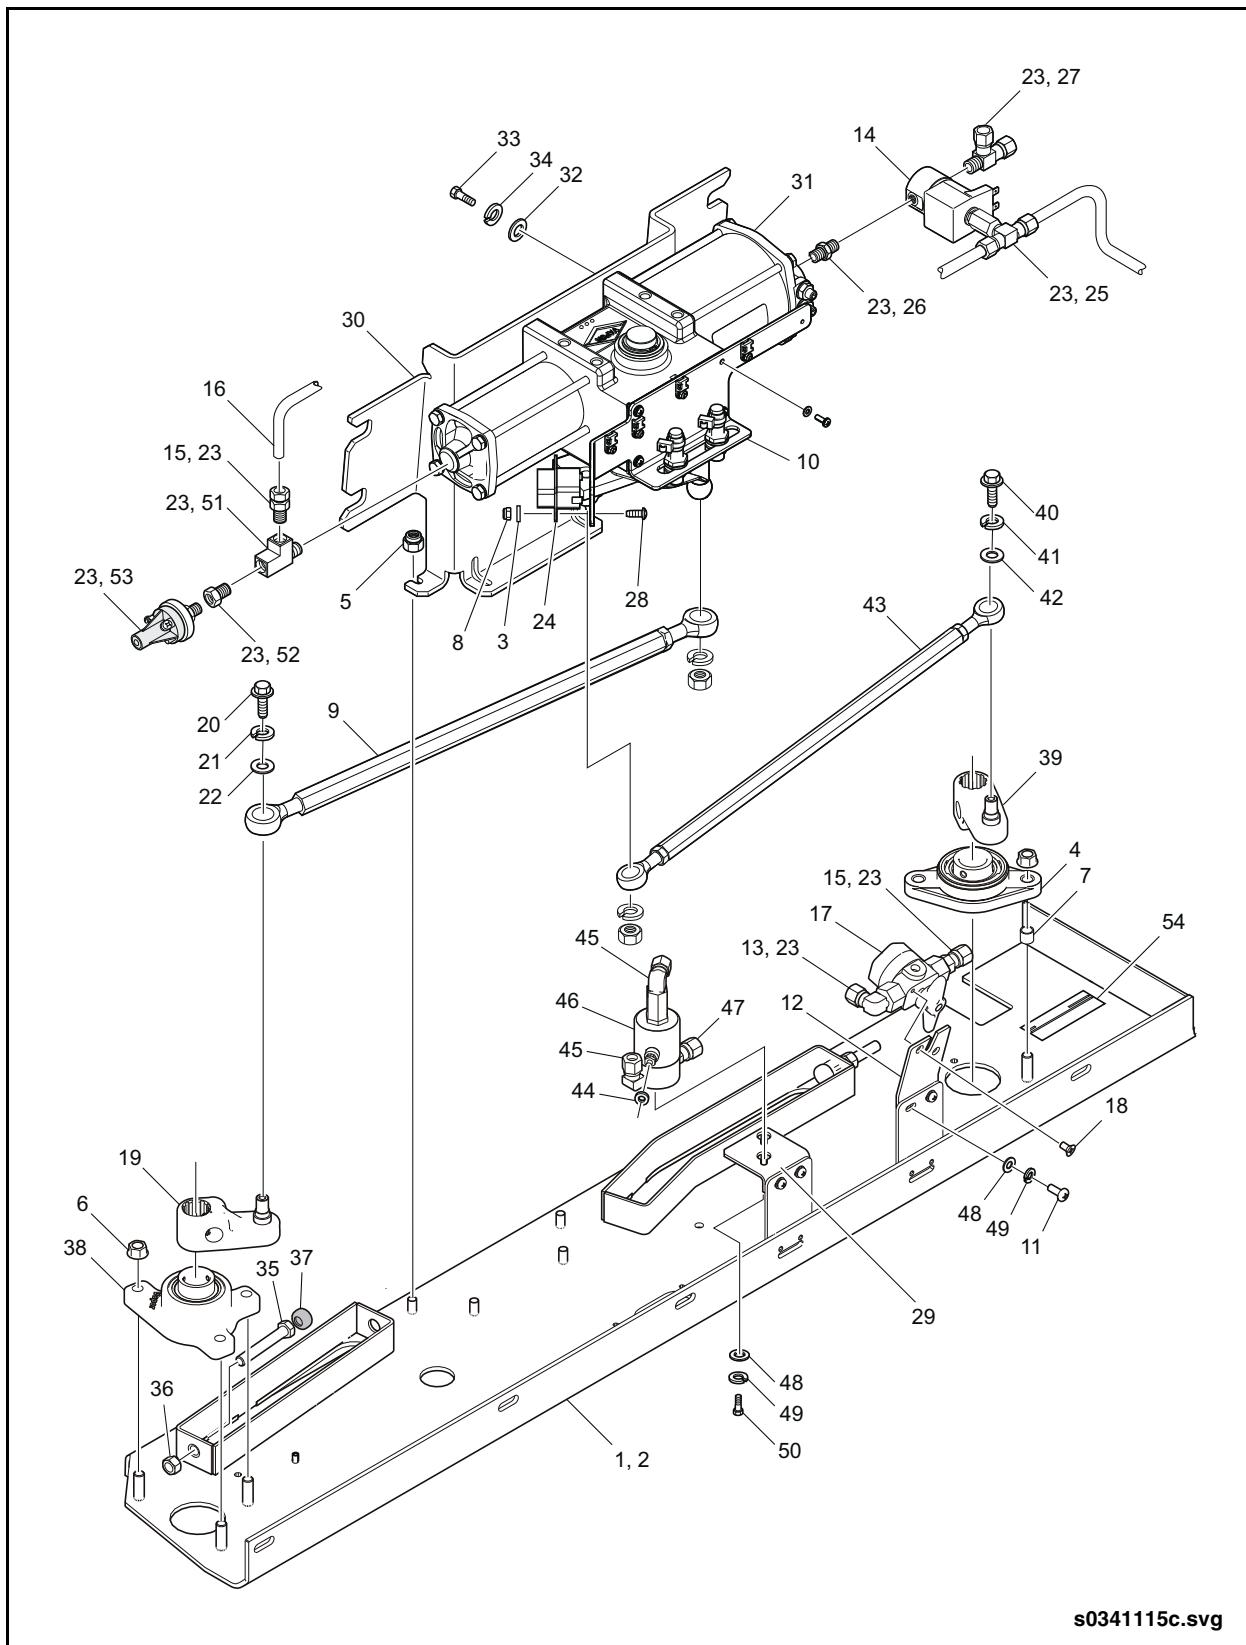

Fig. 16-5: Entrance Door Base Plate
5. Remove the switch from the door operator front plate. See "Fig. 16-5: Entrance Door Base Plate" on page 14.